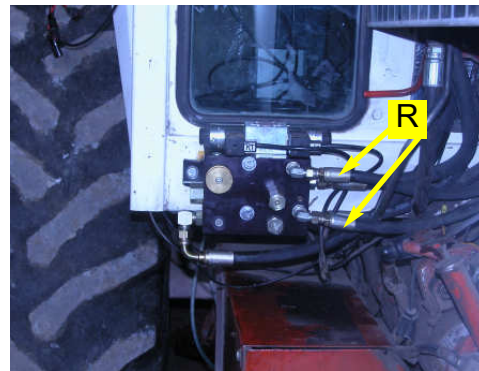

Figure 7a. Steering hoses connected at Automated Steering Block.
- a. Route the provided steering lines (**R**) up to the **A** and **B** ports of the Automated Steering Block from the run tees on the counter-balance valve block. (Figure 7a.)